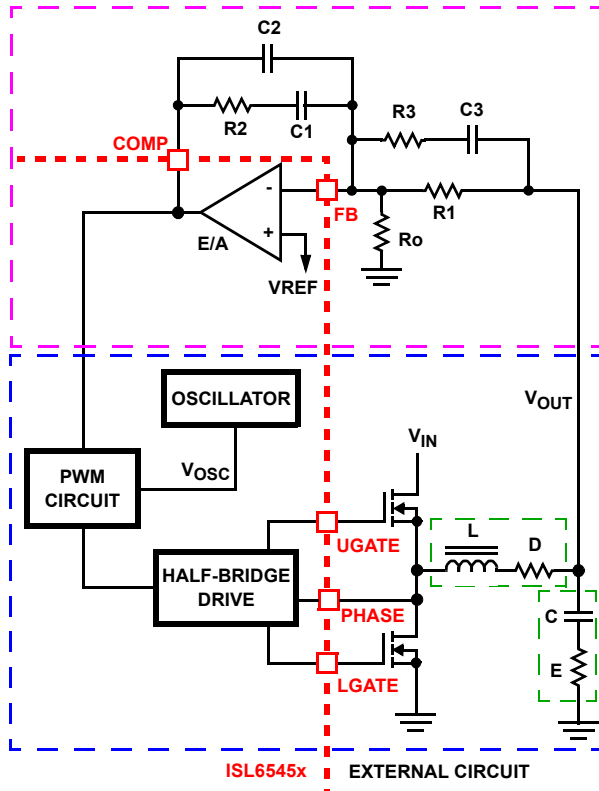

FIGURE 9. VOLTAGE-MODE BUCK CONVERTER COMPENSATION DESIGN
This section highlights the design consideration for a voltage-mode controller requiring external compensation. To address a broad range of applications, a type-3 feedback network is recommended, as shown in the top part of Figure 9.
Figure 9 also highlights the voltage-mode control loop for a synchronous-rectified buck converter, applicable to the ISL6545x circuit. The output voltage ( $V_{OUT}$ ) is regulated to the reference voltage,  $V_{REF}$ . The error amplifier output (COMP pin voltage) is compared with the oscillator (OSC) modified sawtooth wave to provide a pulse-width modulated wave with an amplitude of  $V_{IN}$  at the PHASE node. The PWM wave is smoothed by the output filter ( $L$  and  $C$ ). The output filter capacitor bank's equivalent series resistance is represented by the series resistor  $E$ .
The compensation network consists of the error amplifier (internal to the ISL6545x) and the external R1-R3, C1-C3 components. The goal of the compensation network is to provide a closed loop transfer function with high 0dB crossing frequency ( $F_0$ ; typically 0.1 to 0.3 of  $F_{SW}$ ) and adequate phase margin (better than 45°). Phase margin is the difference between the closed loop phase at  $F_{0dB}$  and 180°. The equations that follow relate the compensation network's poles, zeros and gain to the components (R1, R2, R3, C1, C2, and C3) in Figure 9. Use the following guidelines for locating the poles and zeros of the compensation network:
1. Select a value for R1 (1kΩ to 5kΩ, typically). Calculate value for R2 for desired converter bandwidth ( $F_0$ ). If setting the output voltage via an offset resistor connected to the FB pin,  $R_o$  in Figure 9, the design procedure can be followed as presented.